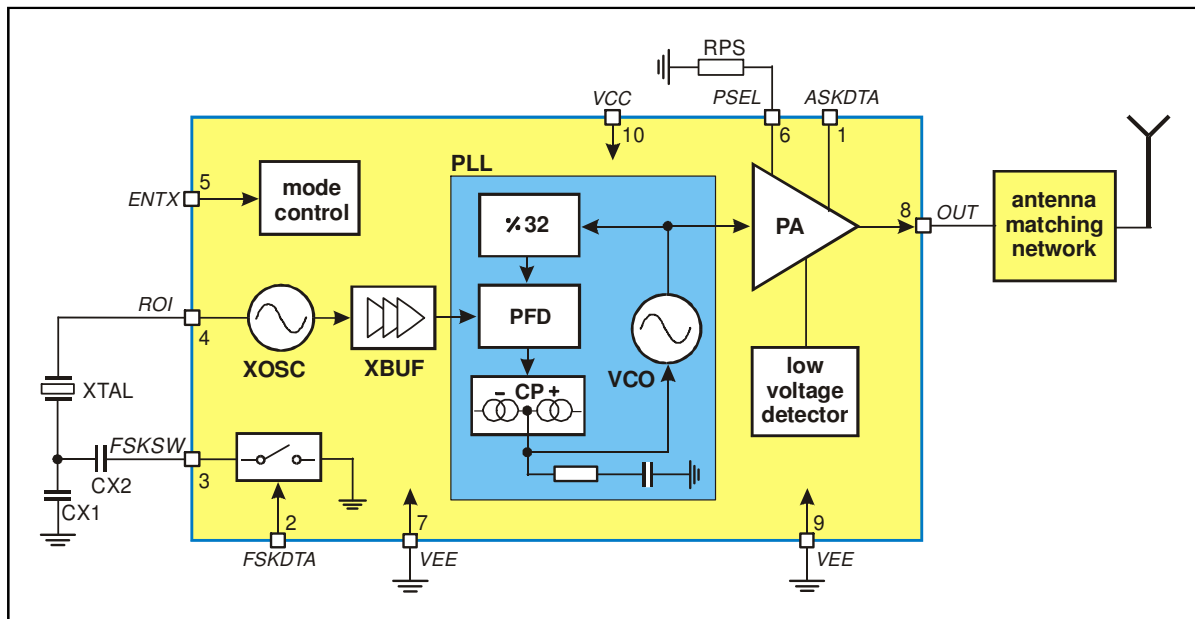

Fig. 1: Block diagram with external components
As depicted in Fig.1, the TH72015 transmitter consists of a fully integrated voltage-controlled oscillator (VCO), a divide-by-32 divider (div32), a phase-frequency detector (PFD) and a charge pump (CP). An internal loop filter determines the dynamic behavior of the PLL and suppresses reference spurious signals. A Colpitts crystal oscillator (XOSC) is used as the reference oscillator of a phase-locked loop (PLL) synthesizer. The VCO's output signal feeds the power amplifier (PA). The RF signal power  $P_{out}$  can be adjusted in four steps from  $P_{out} = -12$  dBm to  $+10$  dBm, either by changing the value of resistor RPS or by varying the voltage  $V_{PS}$  at pin PSEL. The open-collector output (OUT) can be used either to directly drive a loop antenna or to be matched to a 50Ohm load. Bandgap biasing ensures stable operation of the IC at a power supply range of 1.95 V to 5.5 V.